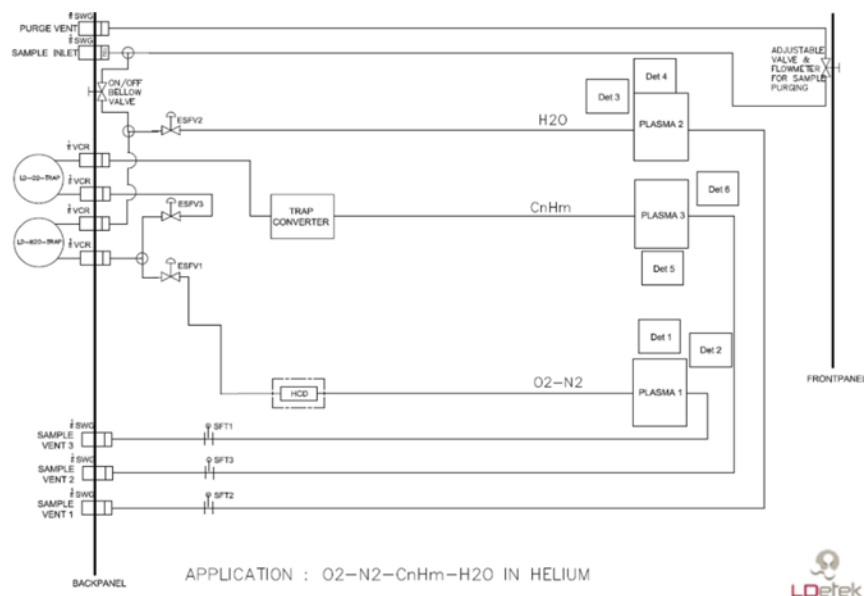

Figure 2
Figure 2 shows an installation where the required measurement must be configured for the following ranges (low ppm configuration only):
Figure 2 demonstrates an instrument configured as follows:
Conclusion on the configuration of Figure 2:
1. This configuration is similar to the one described in Figure 2. However, it allows to cover a so-called average measurement range, i.e. to go up to 20ppm ranges. To enable this, a plasma specifically configured for N₂ measurement has been added behind the H₂O and O₂ traps allowing to obtain a measurement without interference of nitrogen. In this configuration, the shielded nitrogen measurement is used to apply compensation to the O₂ measurement.